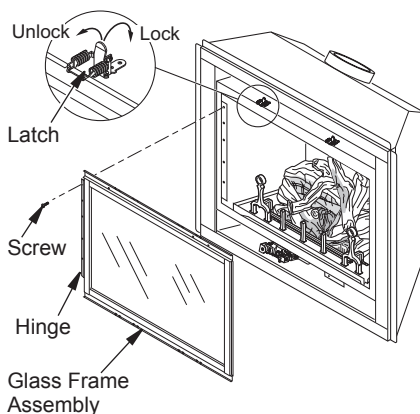

Figure 37 - Removing/Replacing Glass Door
2. Lift up on latches to unlock. There are two on top of firebox and two below firebox that hold glass door in place (see Figure 37).
3. While holding glass door to prevent it from falling and causing injury, remove five screws from hinge located on left side of door frame assembly (see Figure 37).
5. Close glass door frame. Lock latches by placing bar under tab on door and pushing down and back on latch (see Figure 37, page 24).